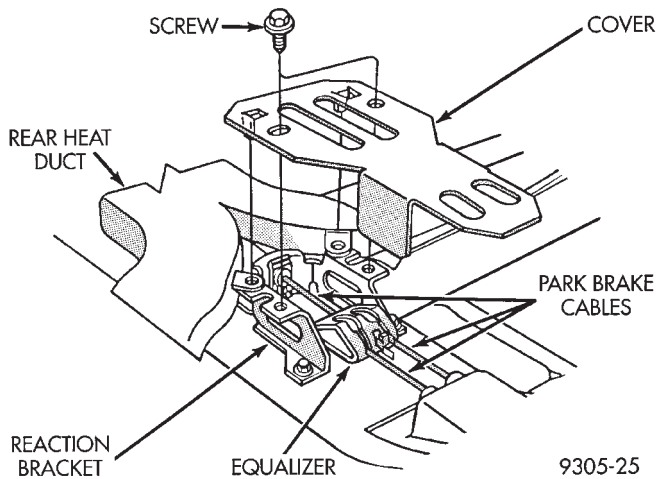

Fig. 139 Park Brake Equalizer Bracket
equalizer cover which is attached to the park brake cable reaction bracket (Fig. 139).
(15) Remove the park brake equalizer cover from the reaction bracket (Fig. 139).
(6) Install equalizer cover back on reaction bracket (Fig. 139). Torque equalizer cover to reaction bracket mounting bolts to 10 N·m (88 in. lbs.).
(7) Fold rear passenger compartment carpeting back into position.
(8) Install both lower rear door opening sill moldings.
(9) Install the rear seat lower cushion back in vehicle. Refer to group 23 Body in this service manual for required lower seat cushion, installation procedure.
(10) Install drivers side seat assembly back in vehicle. Refer to group 23 Body in this service manual for required lower seat cushion, installation procedure.
(11) Return the driver and passenger side seats back to their original positions.
(12) Raise vehicle.
(13) Install the parking brake shoes on the rear disc brake adapter. See Park Brake Shoes With Rear Disc Brakes in the Removal And Installation section